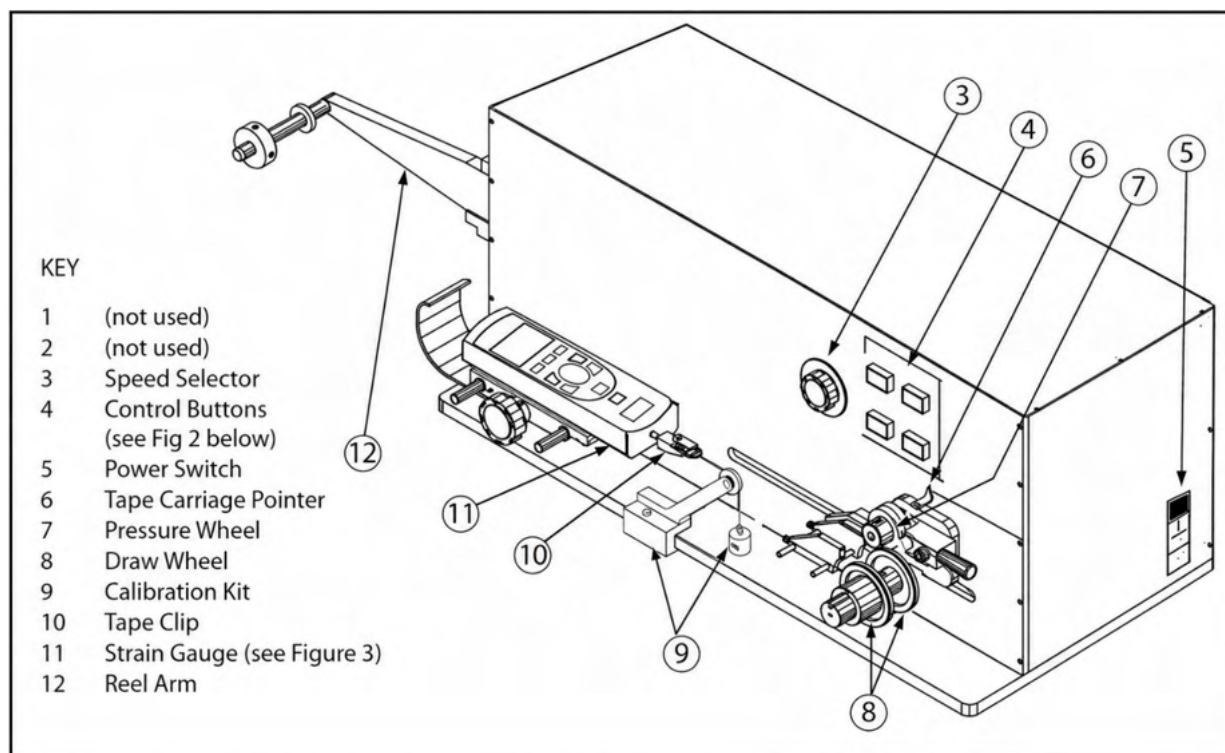

Figure 1: PBFT VS - key elements (shown with Calibration Kit installed)
5. Verify draw wheel (**Figure 1, Item 8**) and pressure wheel (**Figure 1, Item 7**) are in place.
6. Install the reel arm (**Figure 1, Item 12**) with the provided screws.
7. Plug the PBFT power cord into the PBFT power outlet [located below the power switch (**Figure 1, Item 5**)]. Plug the other end into a suitable power outlet. See **Power Requirements (page 24)** for power details.
2. Verify strain gauge (**Figure 1, Item 11**) operation and charging:
- b. Manually position the tape carriage pointer (**Figure 1, Item 6**) with the zero (0) mark on the Length of Test scale (see below).
- d. Select a speed on the speed selector (**Figure 1, Item 3**).